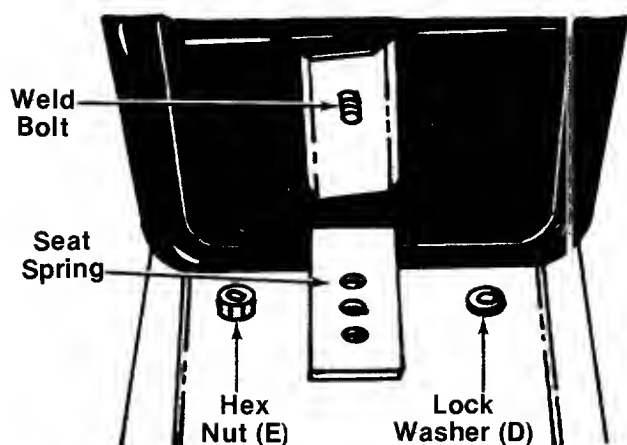

FIGURE 8.
The seat may be adjusted to three different positions. Select desired position and secure to seat spring with one lock washer (D) and hex nut (E). See figure 8.